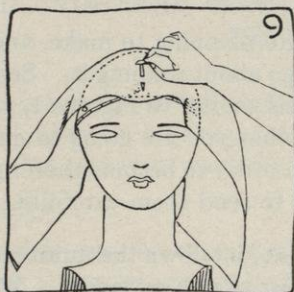
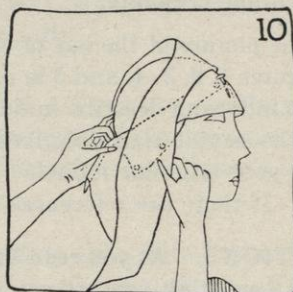
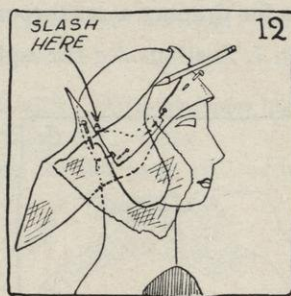

FIG. 9.
FIG. 10.
FIG. 12.
- b. Pin the middle of the bias strip of crinoline over the front of the crown (see Figure 9), and continue to drape. Pin first on one side until you reach the back; then on the other side (see Figures 10 and 11). Figures 10 and 11 show the detail of draping a hat like that shown in Figure 2, page 38. Figure 12 shows the detail for draping a hat like that shown in Figure 3, page 38.
- (1) For a turban like that shown in Figure 3, page 38, the outstanding point to remember is to slash it, as shown in Figure 12, so that it will turn over to form the ear laps. Since this is true of many turbans, you must learn to recognize these similarities.
- (1) Have drawn a pencil line on the crinoline to get the desired line at the edge (see Figure 32 D in Job 7, page 31 and Figure 12 above) or